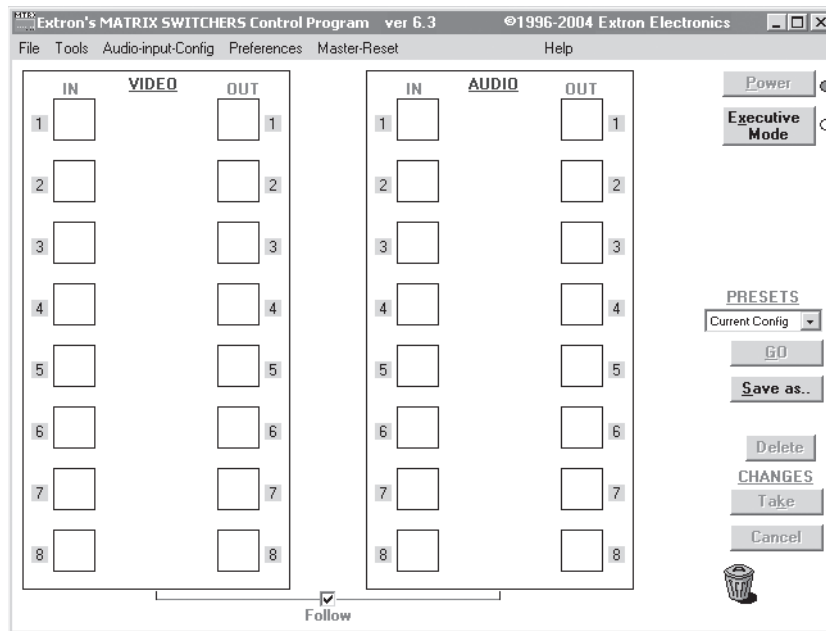
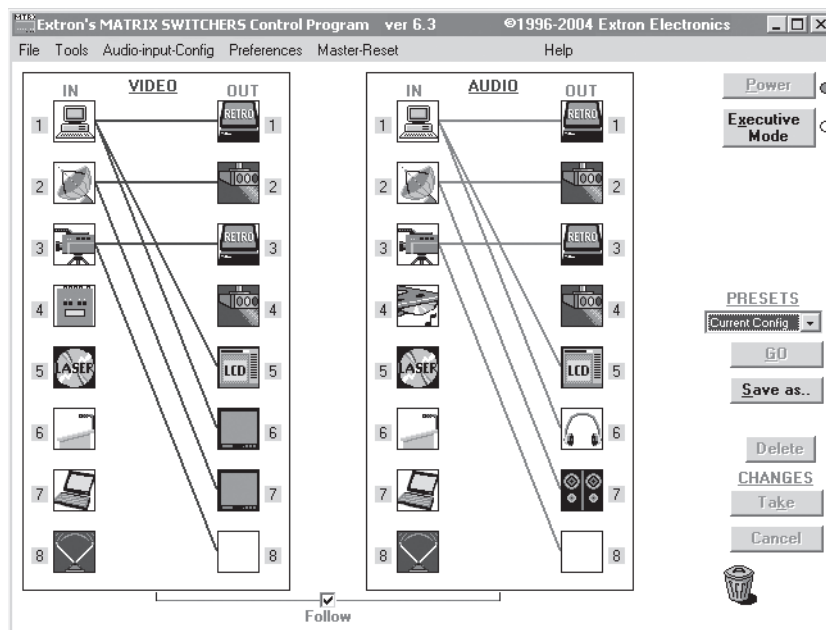

Figure 4-9 — Extron Matrix Switchers Control Program window (blank)
Figure 4-10 — Sample program window (complete)
3. The Extron Matrix Switchers Control Program window (figure 4-9 and figure 4-10) displays the current configuration of the attached matrix.